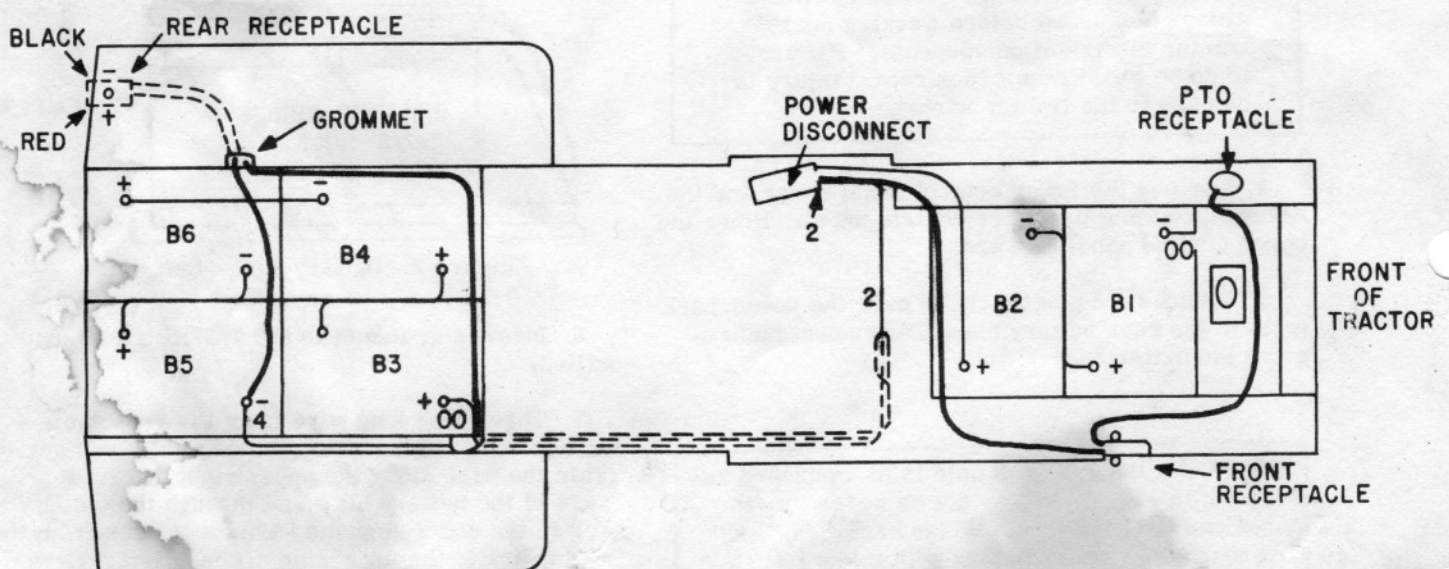

Figure 4. Wiring Layout - Top View
10. Replace the batteries following the layout in Fig. 4. **DO NOT RECONNECT THE BATTERIES AT THIS TIME!**
12. Reconnect the batteries as shown in Fig. 4, connecting the short receptacle wire to the clamp on the negative post of battery B5.
10. Dress the short receptacle wire along the top surface of the perforated charger cover. See Fig. 4.